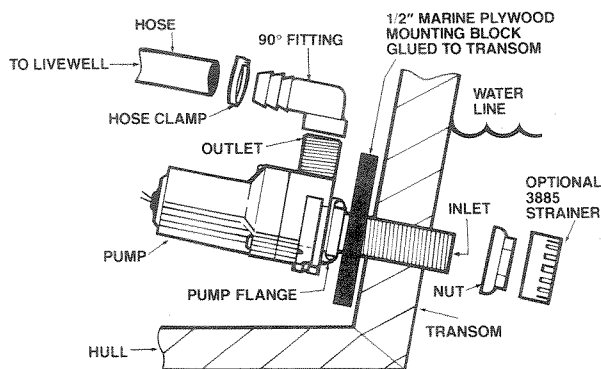

FIGURE 1
2. With the boat out of the water, select a suitable location at least 2" below the water line at the transom to mount the pump (see Figure 1). It is not necessary to locate the pump on the boat centerline.
- For best performance, the pump must be horizontal with the outlet pointed straight up (see Figure 1).